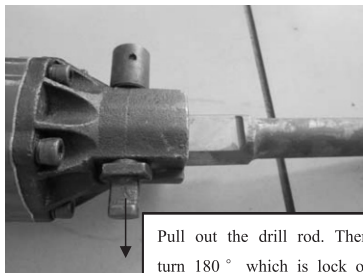

Figure 3
2. Parallel the gap between the drill rod and the stop rod; pull the stop rod according to the direction of arrow, and lock or loosen the drill rod after rotating for 180° (see Figure 3).